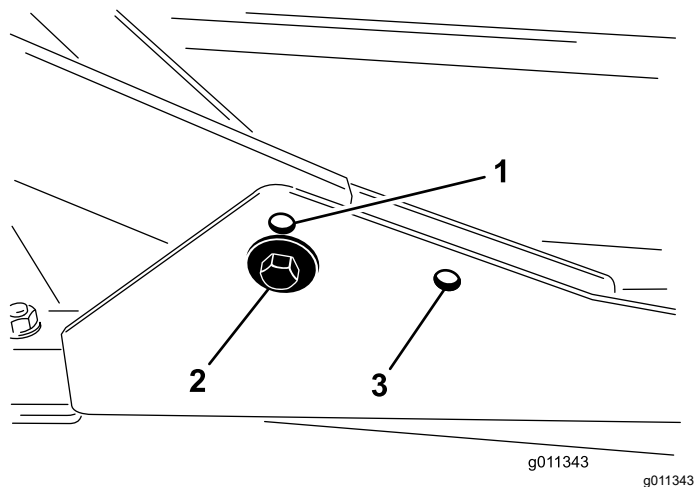

Figure 9
- For heights of cut between 2.0 to 7.6 cm (0.75 to 3 inches), mount the front carrier frames in the lower front mounting holes (Figure 9).
- For heights of cut between 6.3 to 10 cm (2.5 to 4 inches), mount the front carrier frames in the upper front mounting holes (Figure 9).
For all heights of cut, mount the rear cutting unit in the rear-mounting holes (Figure 9).